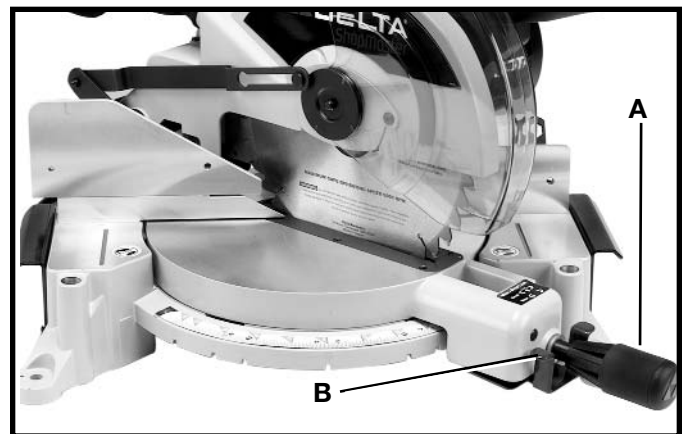

Fig. 3
1. Loosen table lock handle (A) Fig. 3 one or two turns and depress index lever (B).